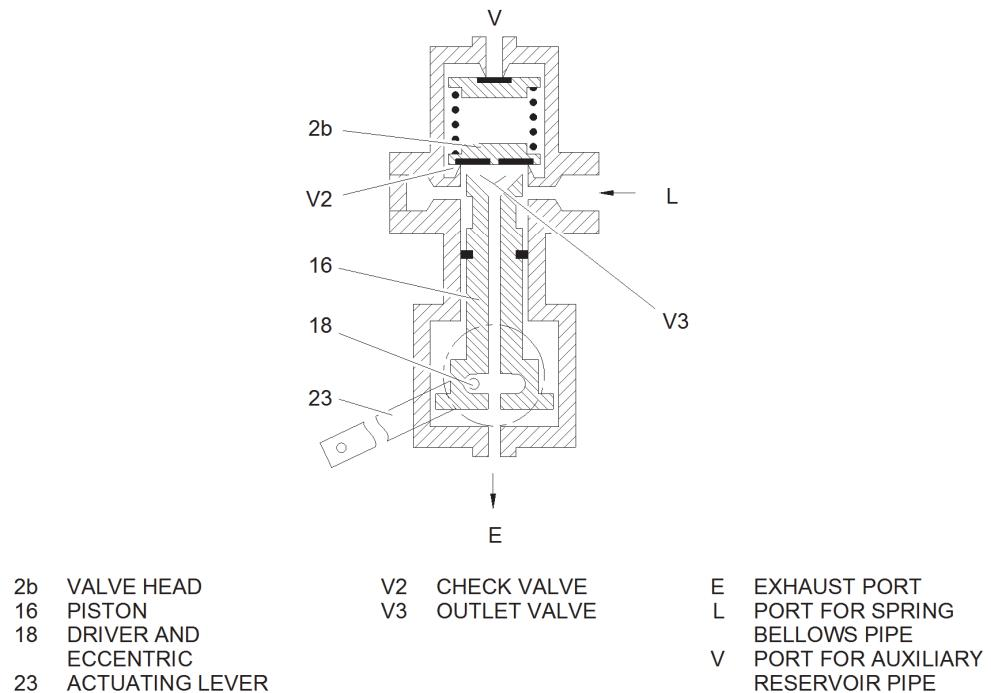

Figure 2-22: Venting
When the vehicle load is decreased the car body rises first as the air spring bellows are extended by the decreasing load. As the bellows expand, the driver (18), see Figure 2-22, is turned via the actuating mechanism, causing the eccentric to move the piston (16) downward and open the outlet valve (V3). The inlet valve (V2) is kept closed by the force of the compression spring and the pressure (V) on the valve head (2b). Communication between the auxiliary reservoir and the air spring bellows is cut off by this action. In the throttled version of the leveling valve, the passage of the compressed air (L) from the air spring bellows is throttled by the fine clearance between the piston neck and housing bore before it passes through the piston's outlet bore on its way to the exhaust port.